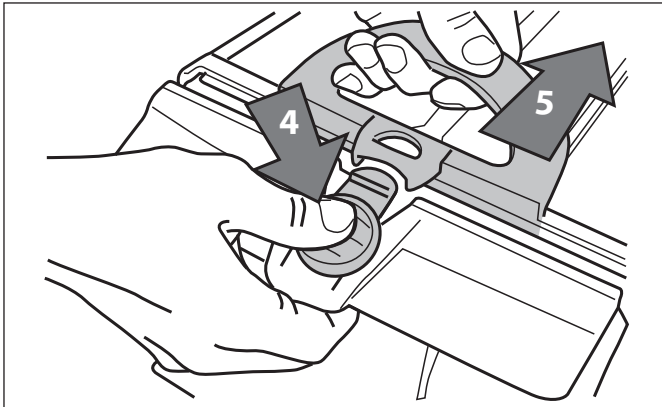

Figure 23. Open Filter Canister Assembly
5. Push the quick release button on the canister assembly (4) and pull open Figure 23.